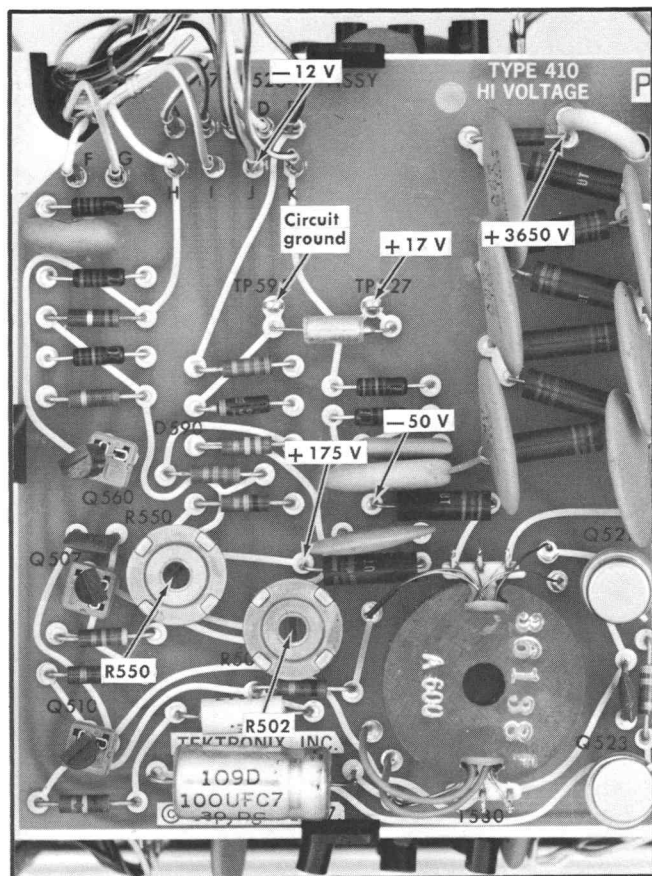

Fig. 6-4. Location of power supply test points, R502, +17 Volts adjustment, and R550, Focus adjustment.
- b. Connect the electronic voltmeter between the +17-volt test point, TP527, and the circuit ground test point, TP595 (Fig. 6-4).
- c. ADJUST—R502, +17 Volts (Fig. 6-4), for a meter reading of exactly +17 volts.
- d. Connect the electronic voltmeter between circuit ground and each of the supplies given in Table 6-1, and check each supply voltage. Test point locations are shown in Fig. 6-4.
- a. ADJUST—R550, Focus (Fig. 6-4), for a well-defined trace.